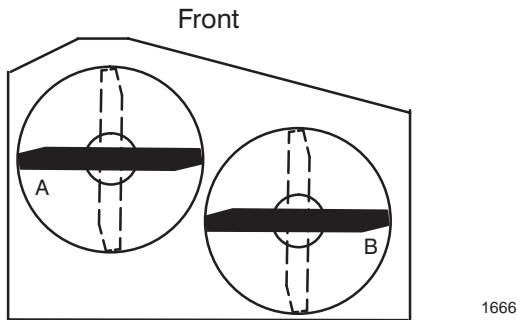
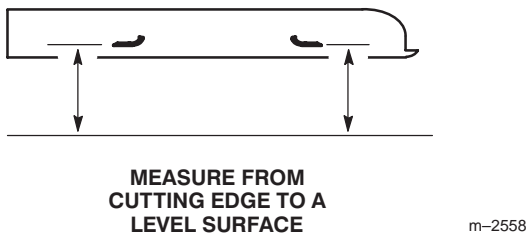

Figure 32
Figure 33
1. Rotate the blades until the ends face forward and backward (Fig. 32). Measure from a level surface to the cutting edge of the blades (Fig. 33). Note this dimension.